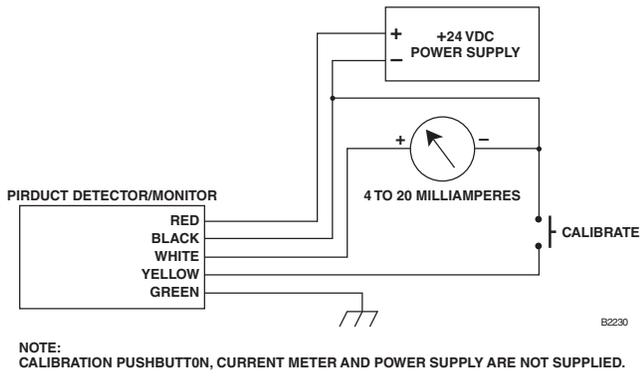

Figure 8—Typical PIRDUCT Wiring, Stand Alone Configuration
2. Wire the PIRDUCT. Figures 8 through 11 show various system configurations. Refer to the appropriate figure as a guide to system connection.
Figure 8 shows typical wiring for stand alone operation.
2. Initiate calibration by either momentarily activating the Calibrate pushbutton (shown in Figure 8) or by holding the Cal Magnet near the Cal Switch in the PIRTB box for one second.